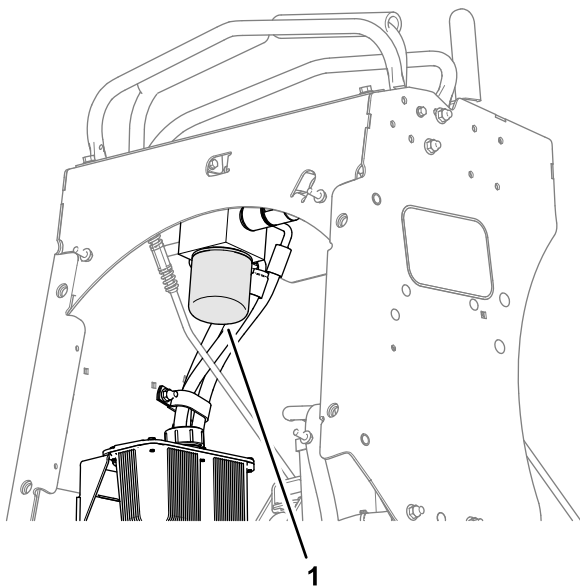

Figure 54
1. Unscrew the filter to remove it and allow oil to drain (Figure 54).
3. Turn the filter clockwise until rubber seal contacts the filter adapter, then tighten the filter an additional 2/3 to 3/4 turn (Figure 54).